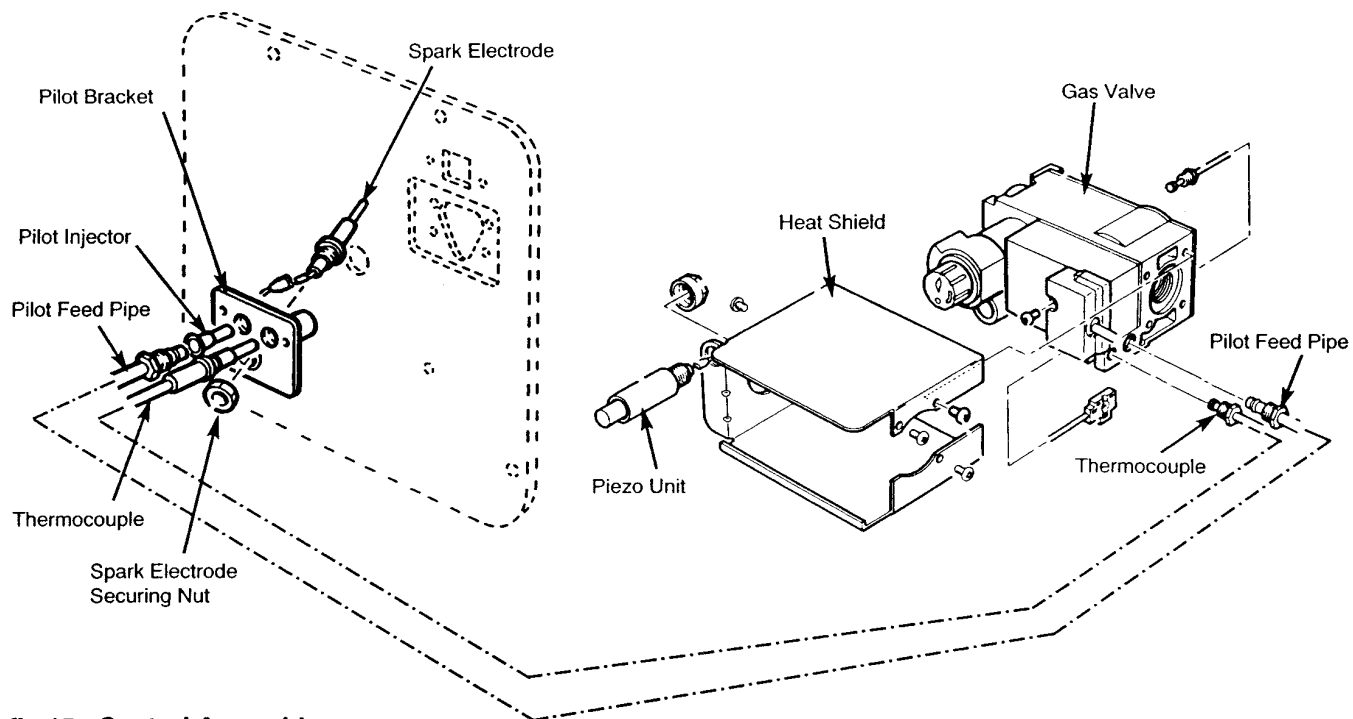

fig 15 - Control Assembly
- 15) Clean the pilot as follows: Unscrew the pilot tubing nuts at both ends and remove the pilot tube. Remove and clean the pilot injector and clean the pilot shroud (Fig 15).
- 3) Release the thermocouple nut at the side of the gas valve (Fig. 15).
GAS VALVE (Fig 15)
PIEZO UNIT (Fig 15)
SPARK ELECTRODE (Fig 15)